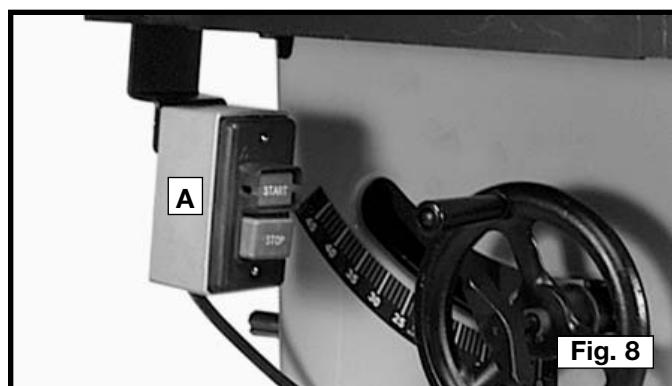

Fig. 8
1. Locate the LVC switch (A) Fig. 8 and the hardware that was removed in the section **"ATTACHING THE EXTENSION WING."**